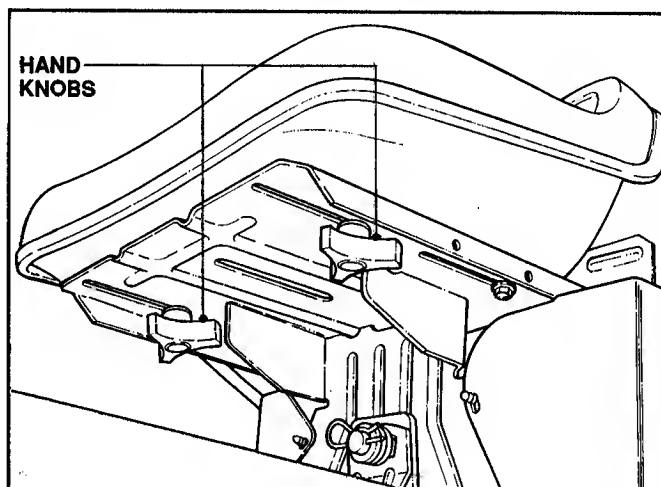

FIGURE 2.3
- D. Adjust seat as needed to most comfortable position. See Figure 2.3.
- 1. With the engine stopped, loosen the two hand knobs and move seat to desired position. After adjustment, tighten knobs securely. See Figure 2.3.
If seat does not move after loosening knobs, it may be necessary to loosen the two hex head bolts at the rear of the seat bracket. Refer to Figure 2.3.